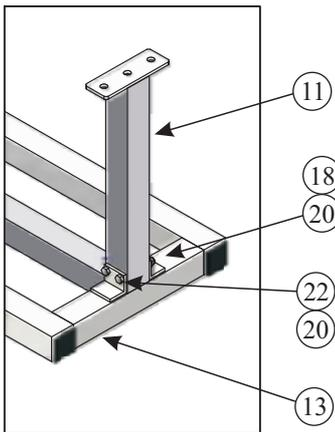

Figure 13.
8.) Attach the end seat supports (11) to the horizontal seat support (13) by fixing through the brackets with BOL472 (22) and fixing with a skiffy washer and nylock nut (Figure 13).